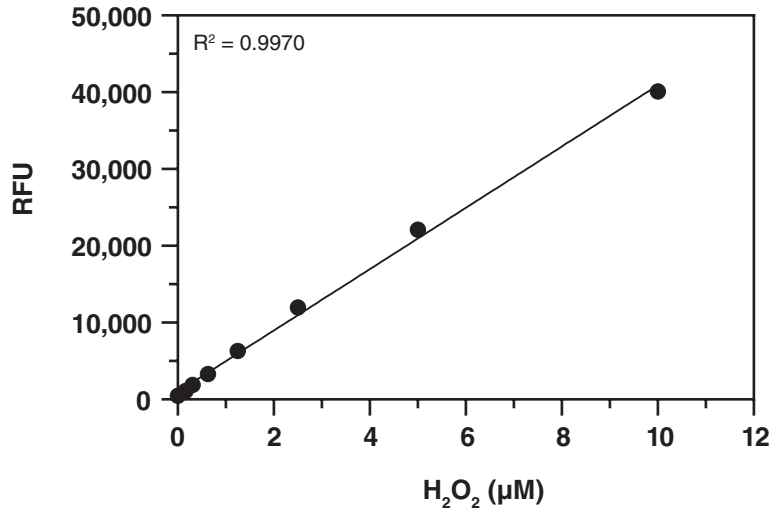

Figure 1. H_2O_2 standard curve - fluorometric
3. Plot the corrected fluorescence or absorbance of each standard (from step 2 above) as a function of the final H_2O_2 concentration (μM). See Figures 1 (below) and 2, on page 13, for a typical standard curve.